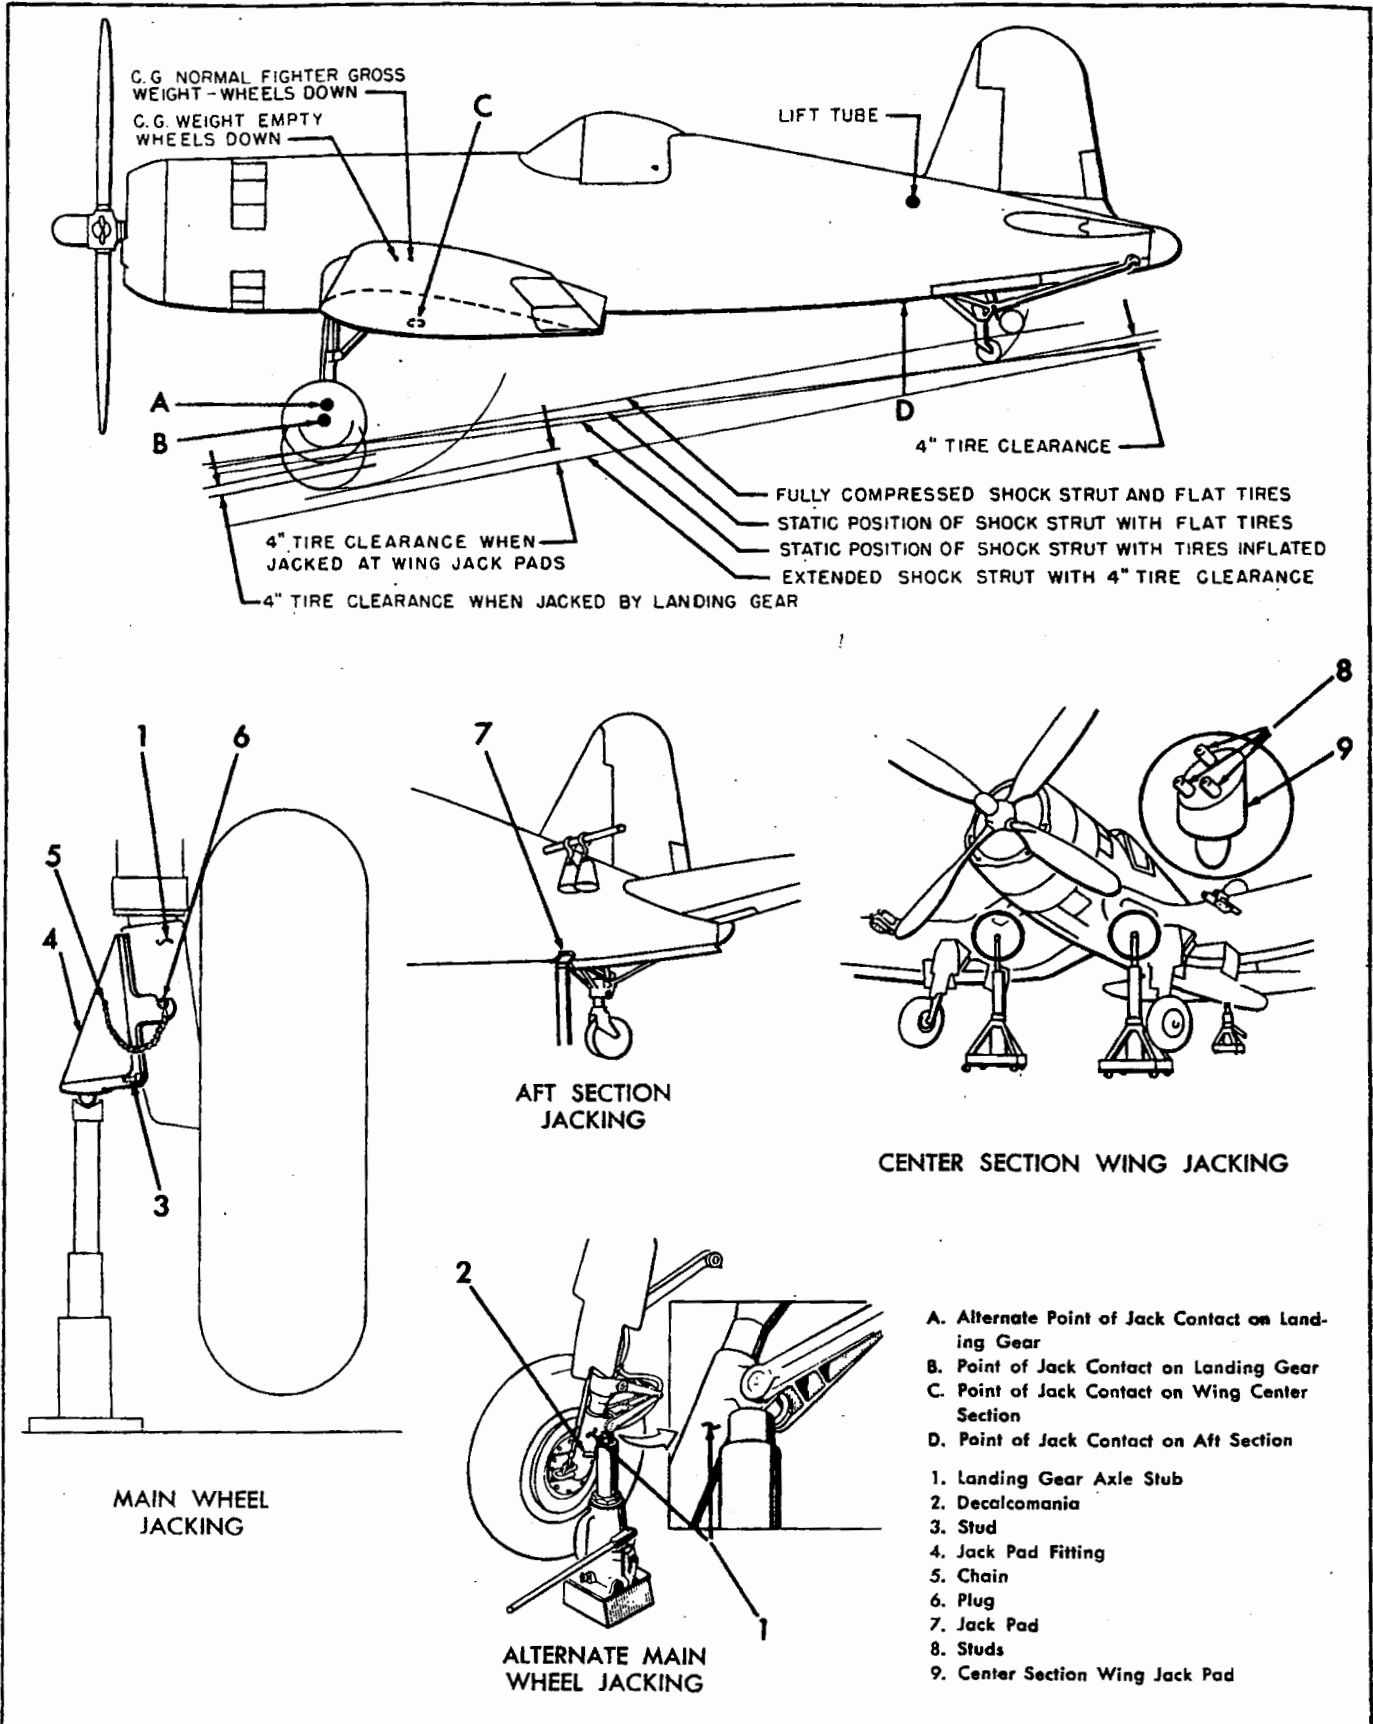

Figure 3-7. Jacking Arrangement.
3-24. DESCRIPTION. (See figure 3-7.) For jacking purposes, five jacking points are provided on the airplane; the jacking pads which fit into them are included in Ground Handling Equipment - Loose Accumulations. For jacking the forward end of the airplane, two jack pads are provided for insertion in the center section jack pad points (C). The jack pad points consist of three small holes which form a triangle near the inboard edge of the landing gear doors. For jacking the aft section of the airplane, a jack pad is provided for insertion in the aft section jack pad point (D) consisting of two holes in the bottom of the fuselage just forward of bulkhead 288. For work such as a main wheel tire change, when it is not necessary to jack up the entire airplane, a jack pad and fitting is provided on the point (B) on each main landing gear shock strut. An alternate point (A) of jack contact for the main landing gear is located on the axle stub, the exact position being marked by a decalcomania. The forward and aft ends of the airplane may be jacked separately. To jack the entire airplane, it is recommended that the forward end be jacked first as described in paragraph 3-25 and the tail then jacked as described in paragraph 3-26.
- b. Place wing jacks under the jacking points (C) located on the center section of the wing near the inboard edge of the landing gear doors.
c. Insert the studs (8) of the jackpads (9) (VS-19166-1, L.H. and VS-19166-2, R.H.) into the holes in the center section so that the upper surfaces of the jack pads are snug against the wing surface. (See figure 3-7.)
3-26. JACKING TAIL. (See figure 3-7.)
3-27. JACKING MAIN WHEELS. (See figure 3-7.) Jack the main wheels only, for work such as a main wheel tire change.